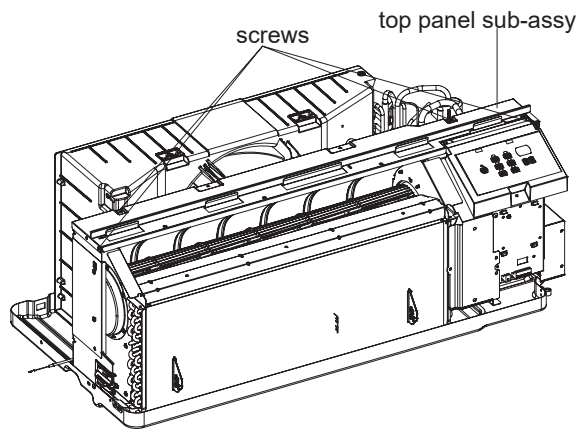

**Figure 518**
8.1 Disconnect molex connector. See Figure 518.